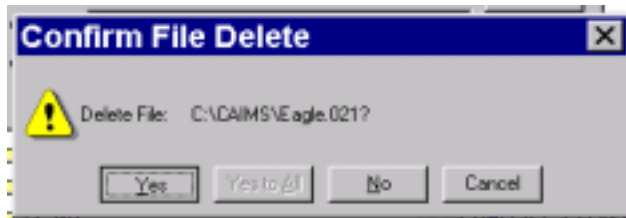

Figure 5 Confirm File Delete Window
6. Select the “Yes” button to confirm delete. See Figure 5.